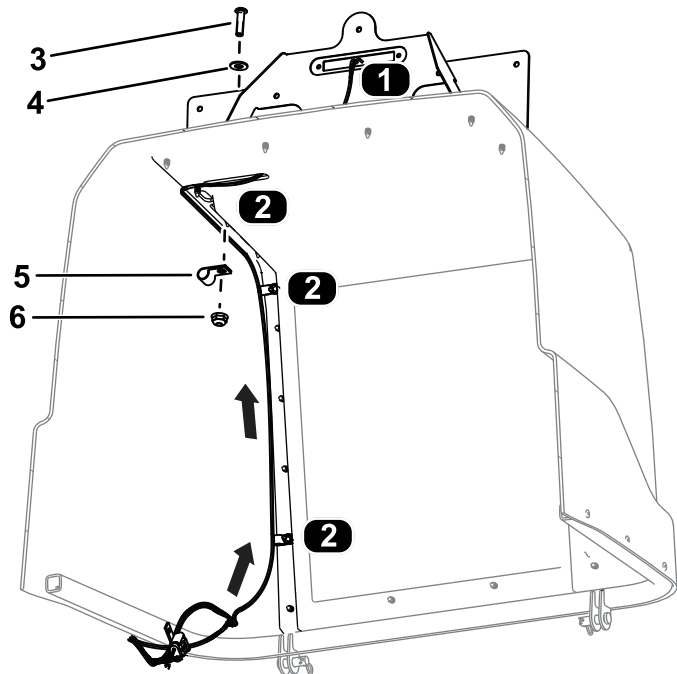

**Figure 31**
9. Secure the assembled taillights to the taillight housings using 8 button-head bolts (1/4 x 3/4 inch) as shown in Figure 31.
Ensure that you install the taillights with the yellow lens on top (Figure 30 and Figure 31).